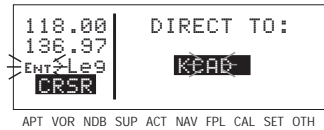

Figure 4-90
5. Use right outer and inner knobs as in the previous steps until the desired identifier is completely displayed (figure 4-90).